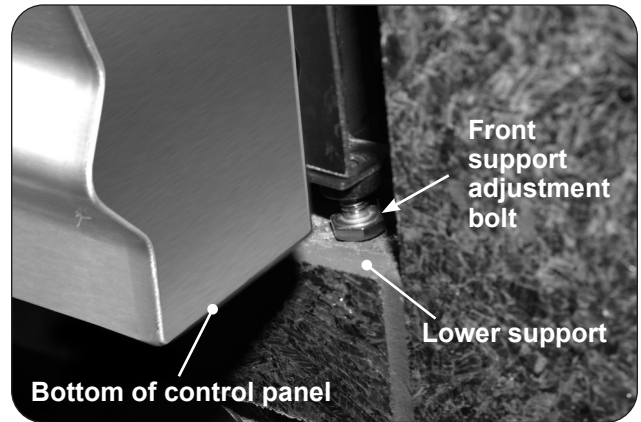

Fig. 23-1 Front support adjustment bolts
3. Rotate the front support adjustment bolts (up or down) until the grill hanger rests flush on the countertop, AND, the adjustment bolts are touching the supporting structure found at the bottom of the cutout (lower support). Use a 7/16" open-end wrench as needed. See Fig. 23-1.